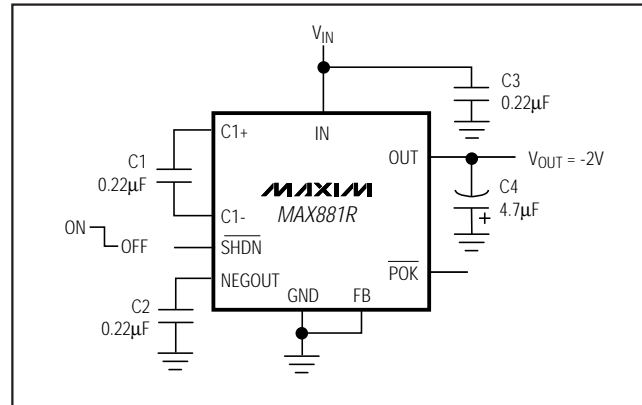

Figure 3a. Standard Application Circuit for Minimum Capacitor Values
**OUTPUT NOISE AND RIPPLE (CIRCUIT OF FIGURE 3a)**
**OUTPUT NOISE SPECTRUM (CIRCUIT OF FIGURE 3a)**
C1, C2, and C3 should be  $0.22\mu\text{F}$  capacitors with less than  $0.4\Omega$  ESR. C4 should be a  $4.7\mu\text{F}$  capacitor with less than  $0.1\Omega$  ESR. Larger capacitor values can be used ( $C1 = C2 = C3 = 1\mu\text{F}$ ,  $C4 = 10\mu\text{F}$ ) to reduce output noise and ripple ( $1\text{mVp-p}$ ), at the expense of cost and board space. All capacitors should be either ceramic or surface-mount chip tantalum (Figures 3a and 3b).